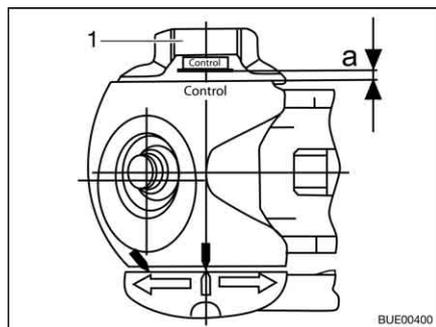

Fig. 201 Friction control
- Turn the handwheel (Fig. 201,1), until it can be heard and felt that the torque limiting mechanism grates. Direction of rotation: In a clockwise direction.
- Distance $a > 0$ (Fig. 201): Wear within the permissible range.